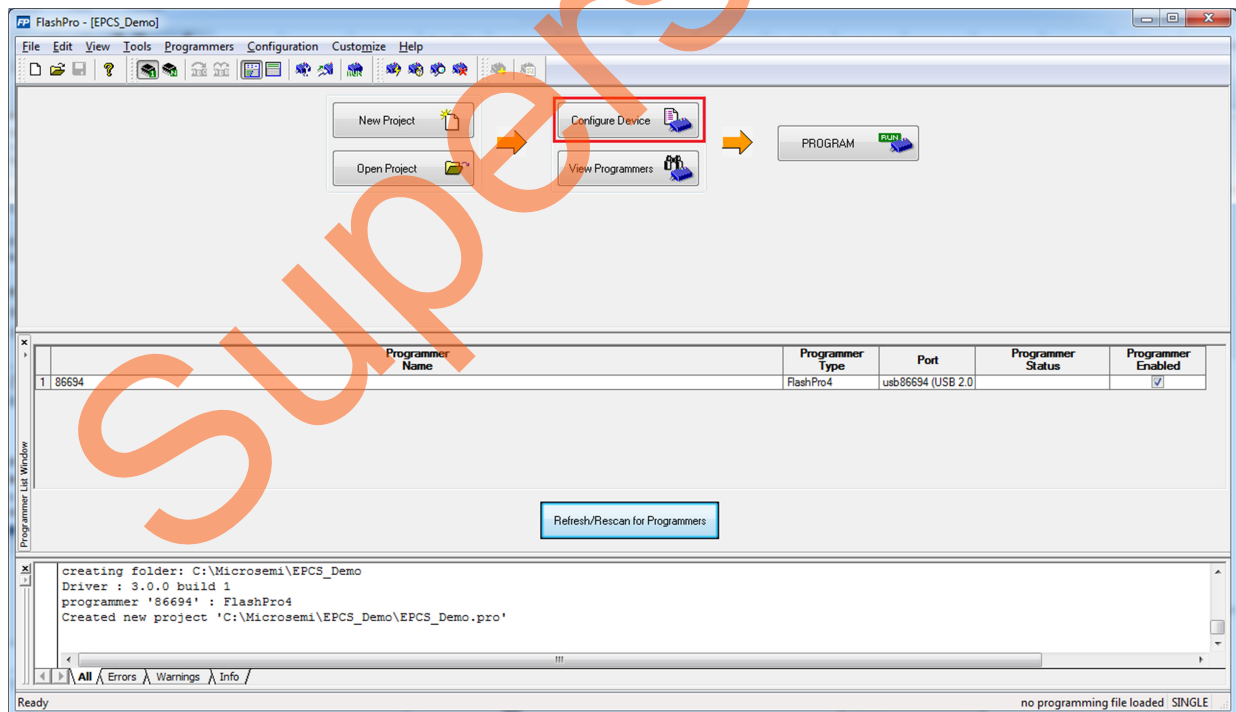
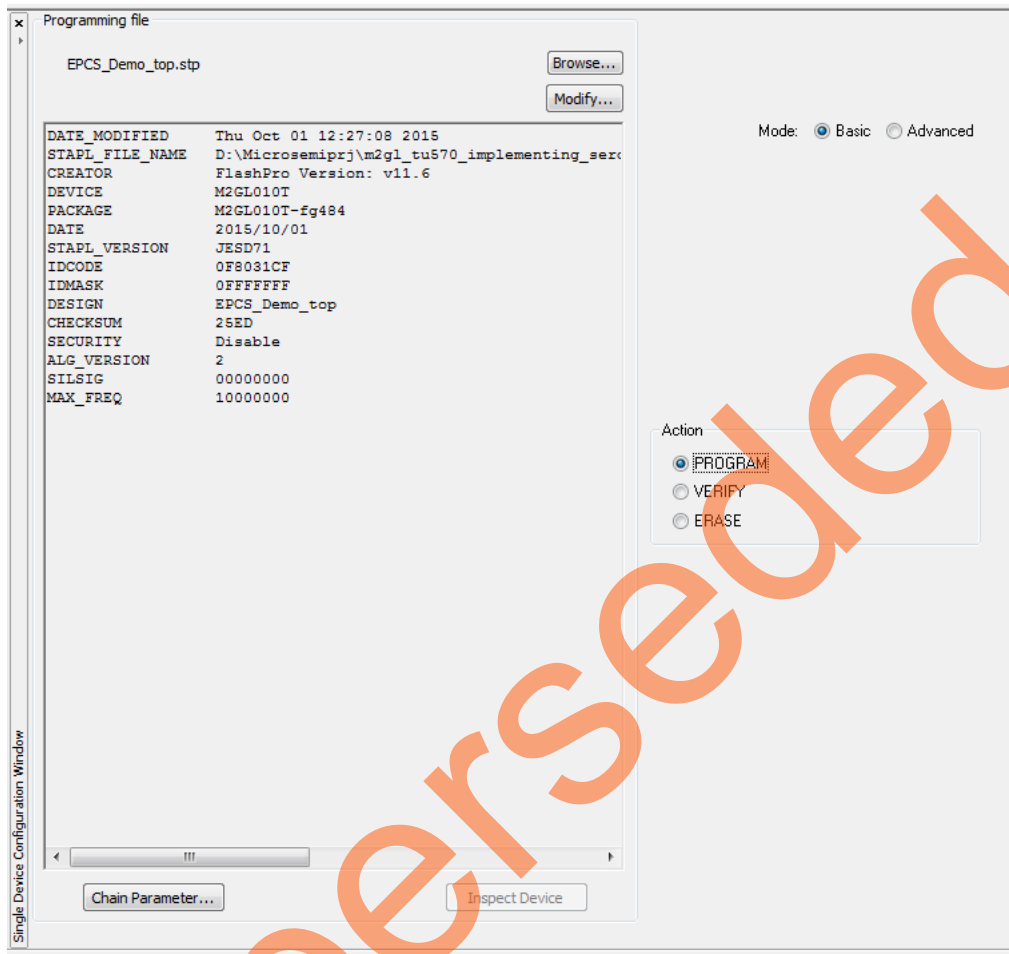

Figure 7 • FlashPro GUI Window
Figure 8 • Single Device Configuration Window
9. Click **Configure Device** (highlighted in red in Figure 7 on page 13). The **Single Device Configuration** window is displayed in FlashPro, as shown in Figure 8.
The **Single Device Configuration Window** is updated to list the Programming file information and the actions available in the Programming file in the **Action** menu, as shown in Figure 8. **PROGRAM** is the default action selected.